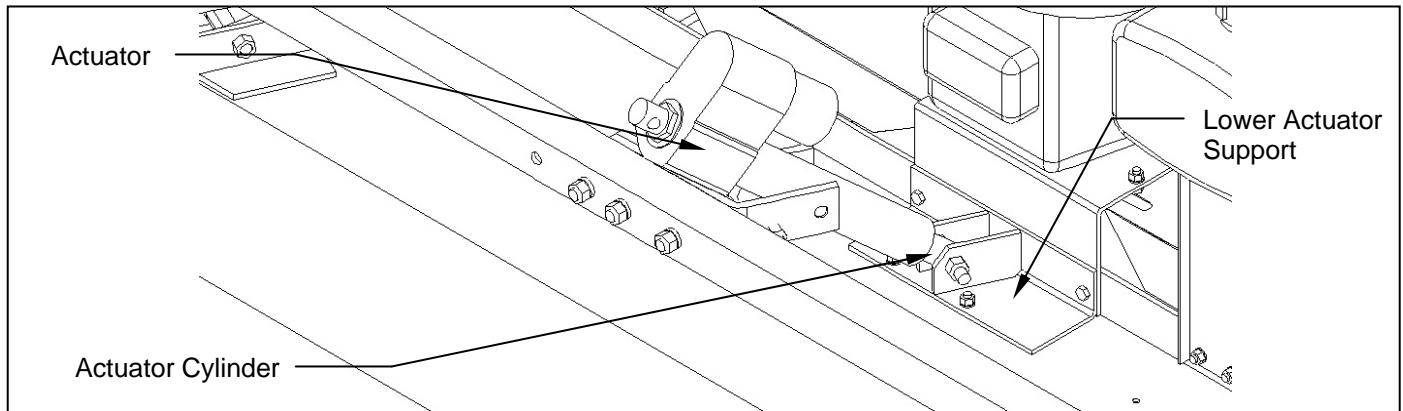

Figure 4. Actuator and Lower Actuator Support Alignment
4. Remove the 1/2 " X 2-1/2" bolt and lock nut from the lower actuator mount. By hand, turn the actuator cylinder out clockwise until the actuator cylinder hole aligns with the lower actuator support. After achieving alignment, attach the actuator cylinder with the 1/2" x 2-1/2" hex head bolt and secure the bolt with the provided lock nut. **See figure 4.**